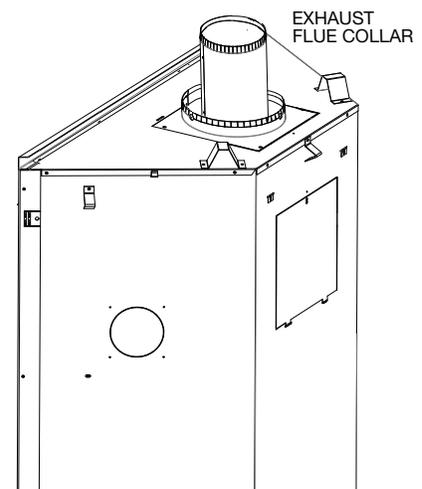

Fig. 3
- G.** From inside the firebox, install the 4" (101.6mm) exhaust collar with gasket up through the top of the firebox, and secure with the the 4 hex head 3/4" black screws supplied in the manual baggie (**Fig. 3**).